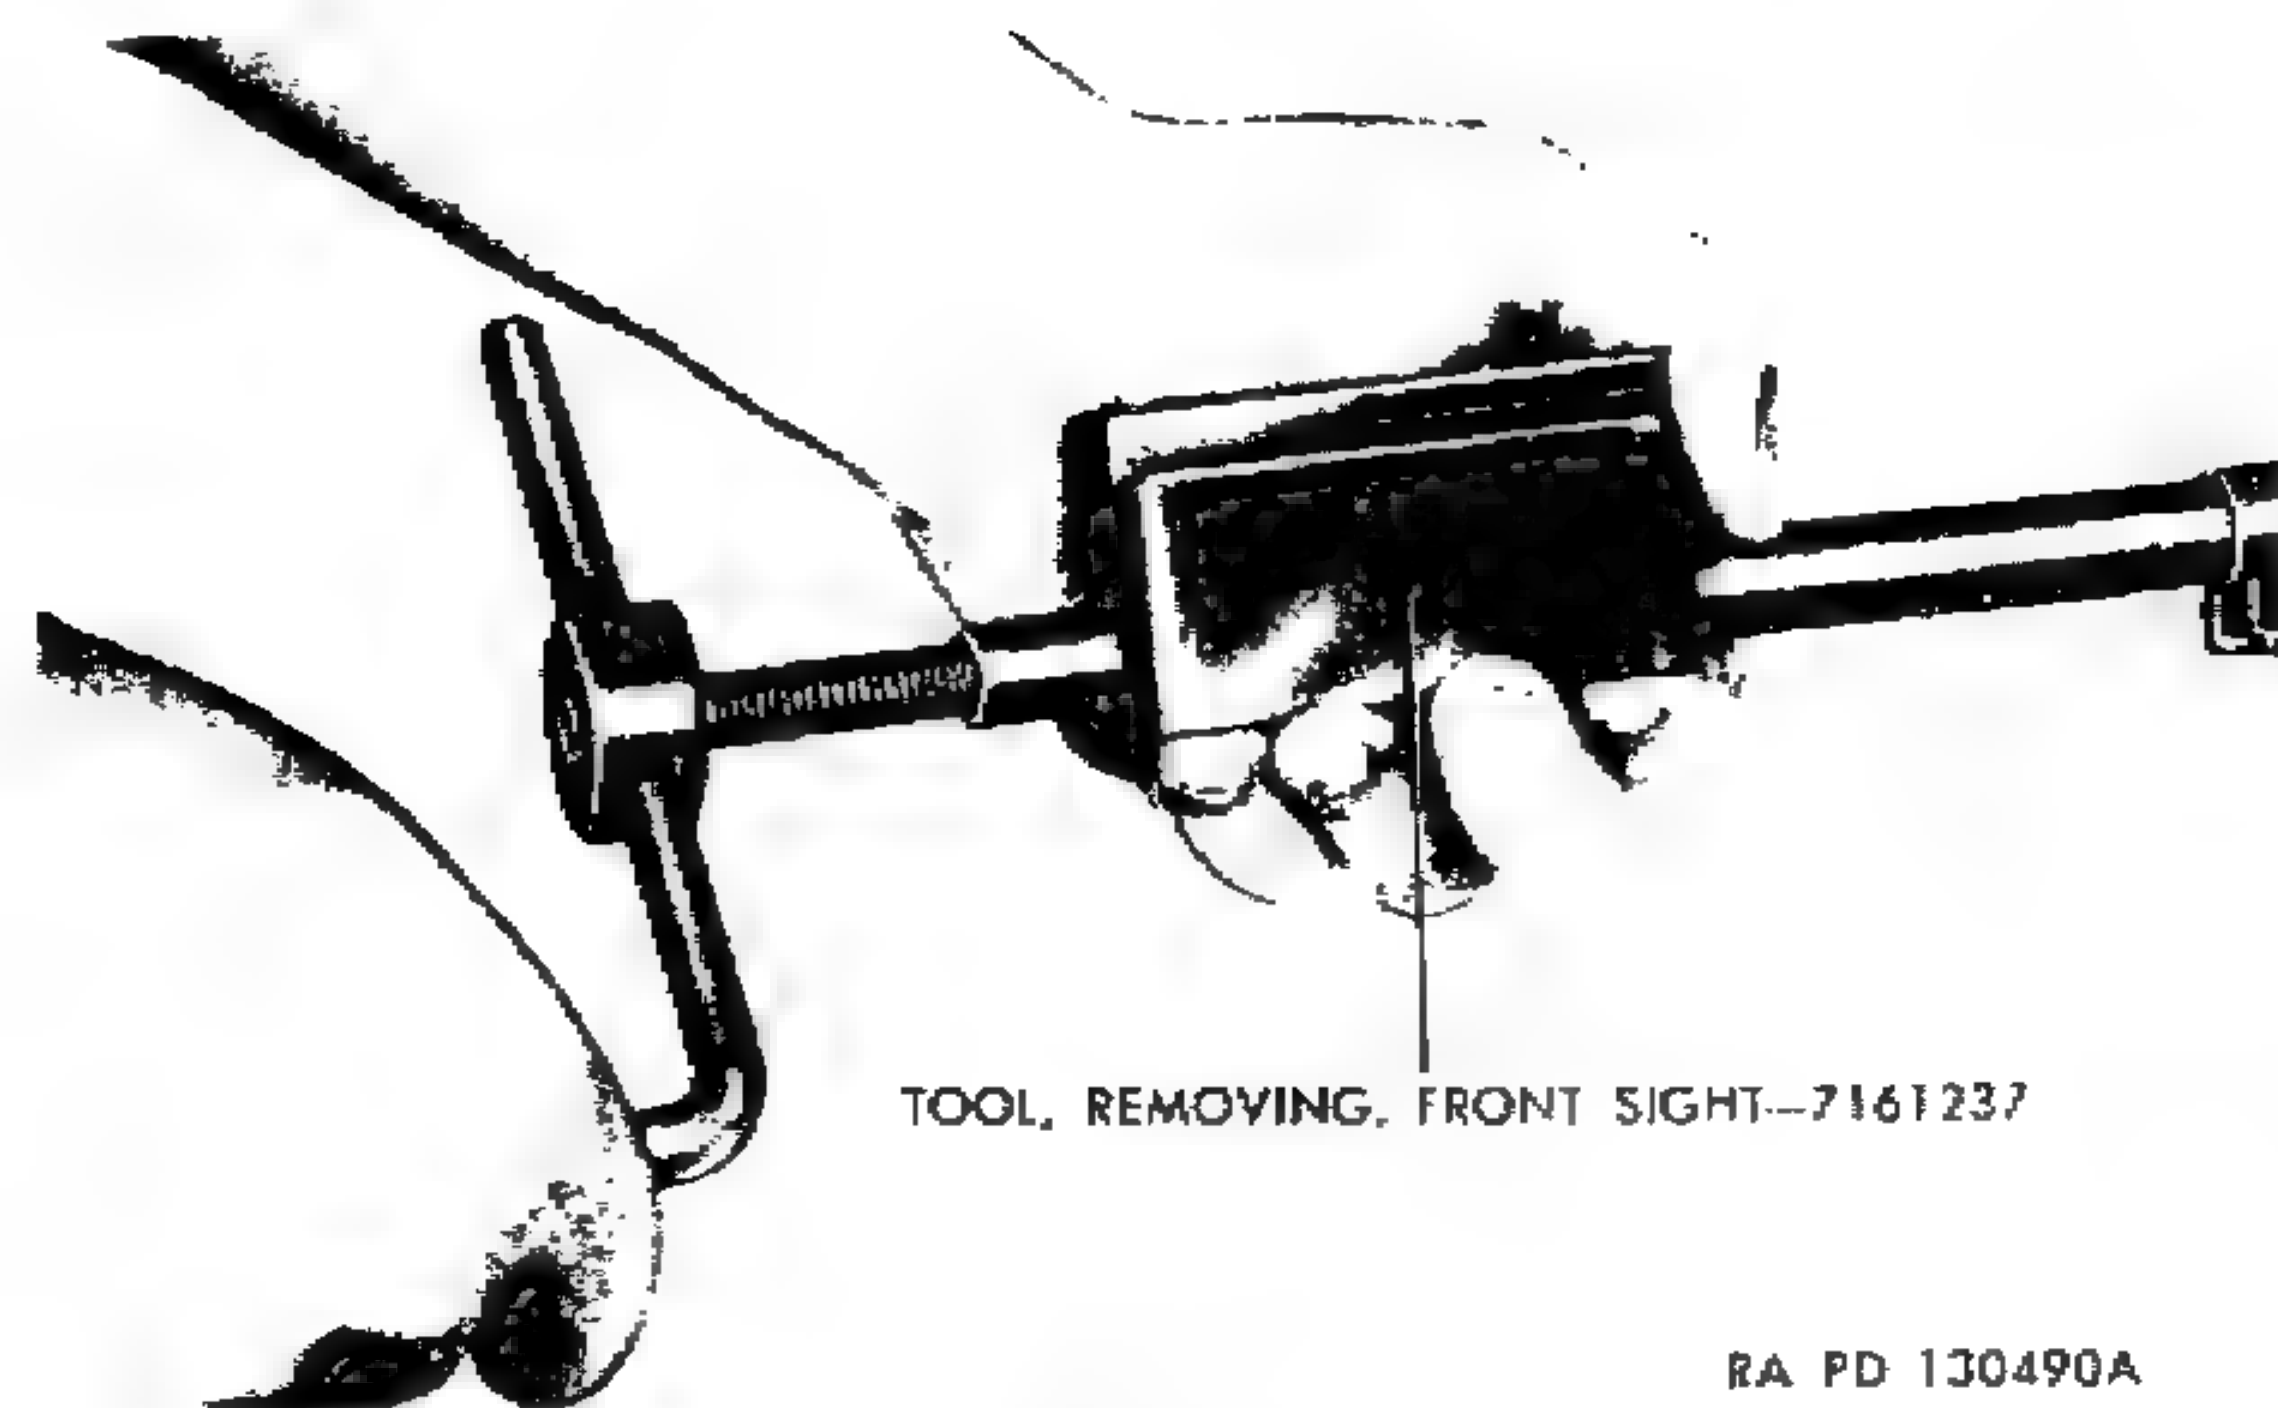

Figure 63. Removing front sight.
- (1) With the barrel and receiver in a padded vise, the muzzle protruding about 1 inch beyond the jaws of the vise, and the front sight vertical, drive out front sight pin from left to right, using a $\frac{3}{32}$ -inch drift.
- (2) Position front sight removing tool 7161237 (fig. 7) over front sight, hooking it on the rear of the sight (fig. 63).
- (3) Enter pilot of tool screw into end of barrel and remove from sight by turning handle of tool.